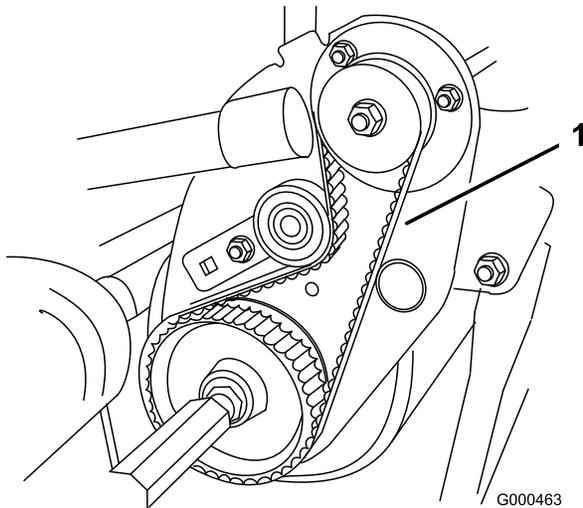

Figure 46
2. Check tension by depressing belt (Figure 46) at mid span of pulleys with 4 ± 1 lb of force. Belt should deflect $3/16$ to $5/16$ inch (4.8 to 7.9 mm). If the deflection is incorrect, proceed to next step.